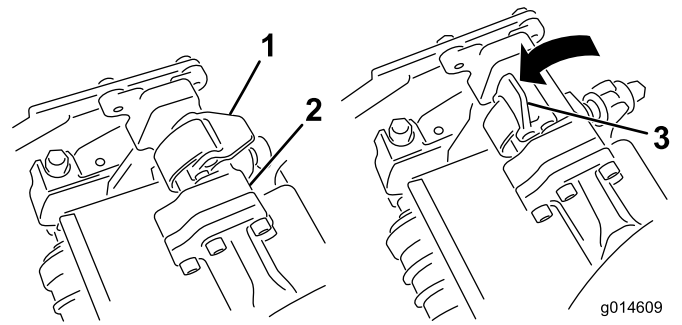
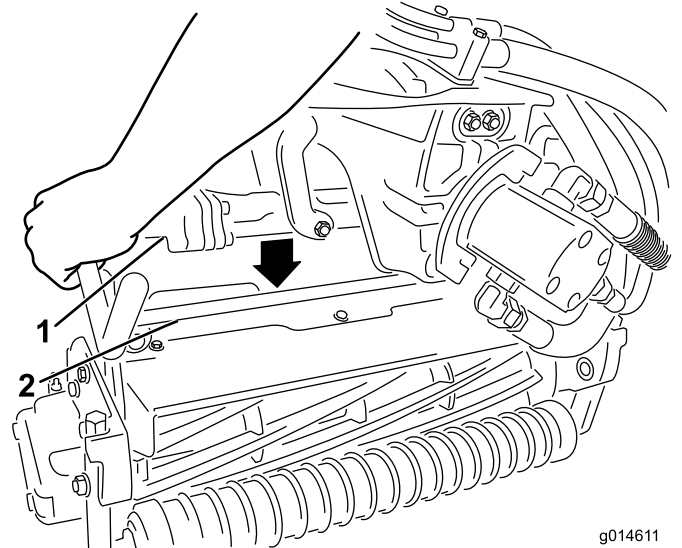

Figure 36
Figure 37
5. Close the latches down and around the cutting-unit bar and lock them in place (Figure 36).
4. With the latches on the suspension-arm bar pointing up (i.e., open) (Figure 36), push the suspension arm down so that the bar fits over the bar across the top of the cutting unit (Figure 37).
5. Open the latches on the suspension-arm bar of the cutting unit you are removing (Figure 36).